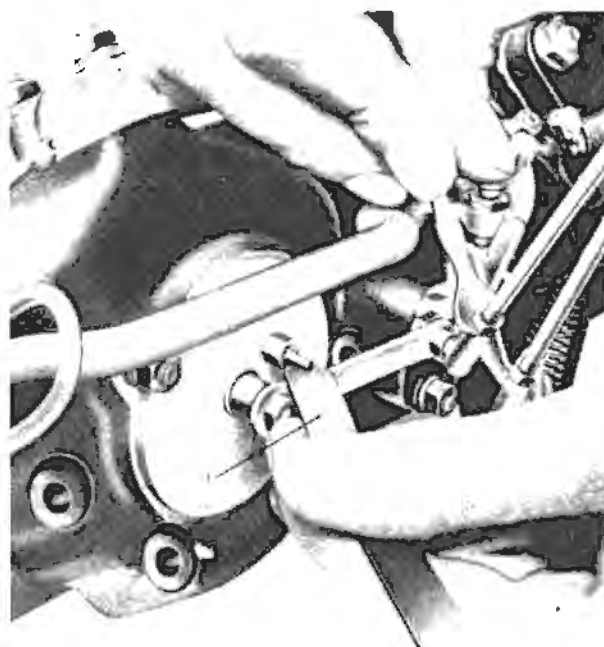

Fig. K.15.—Adjusting Thermostat Rod.
- (vii) Adjust rod to thermostat to give .031" clearance between lever and stop screw. (Choke valve fully closed.) See Fig. K.15.